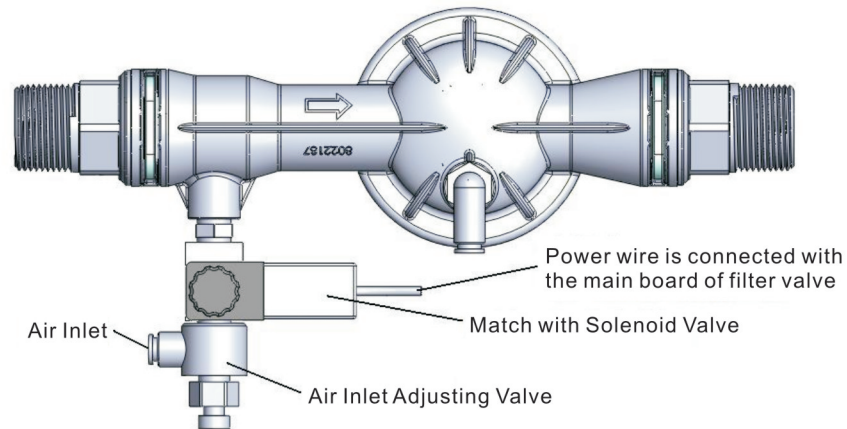

Figure 2
As Figure 2 shows, install a two passages solenoid valve on air inlet. When water tank is full of water or equipment stop working or electricity service interrupted, the filter valve program will control the solenoid valve to cut off compressed air goes into aeration tank, preventing the compressed air drain all of water in aeration tank and filter tank.
C. Ensure the opening degree of air inlet adjusting valve shown in Figure 2. It can adjust the opening degree based on the iron and manganese removal effect, adjusting the air inlet volume. The opening degree should not be too large, avoiding affecting the inlet water